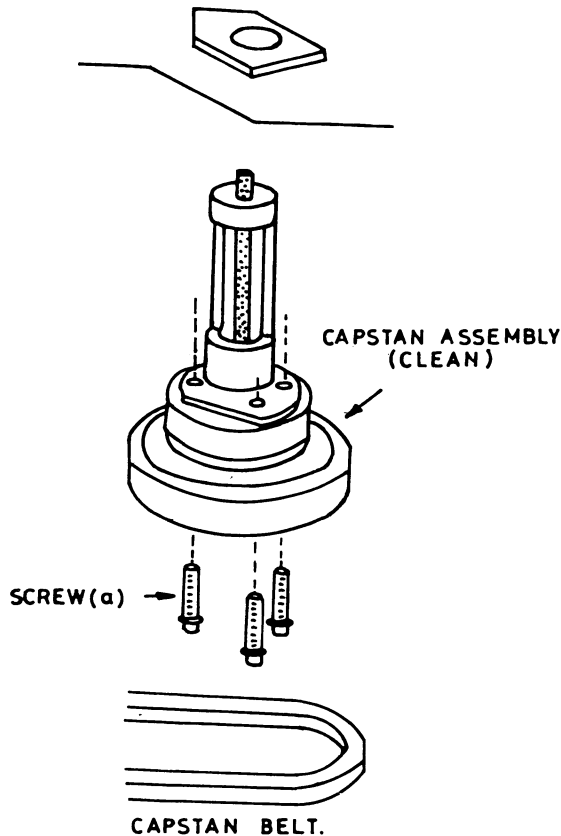

Fig. 10.9 Capstan assembly cleaning
3. Remove the three screws (a) with a screw driver inserted through the corresponding hole found on the capstan fly wheel as shown in fig 10.9